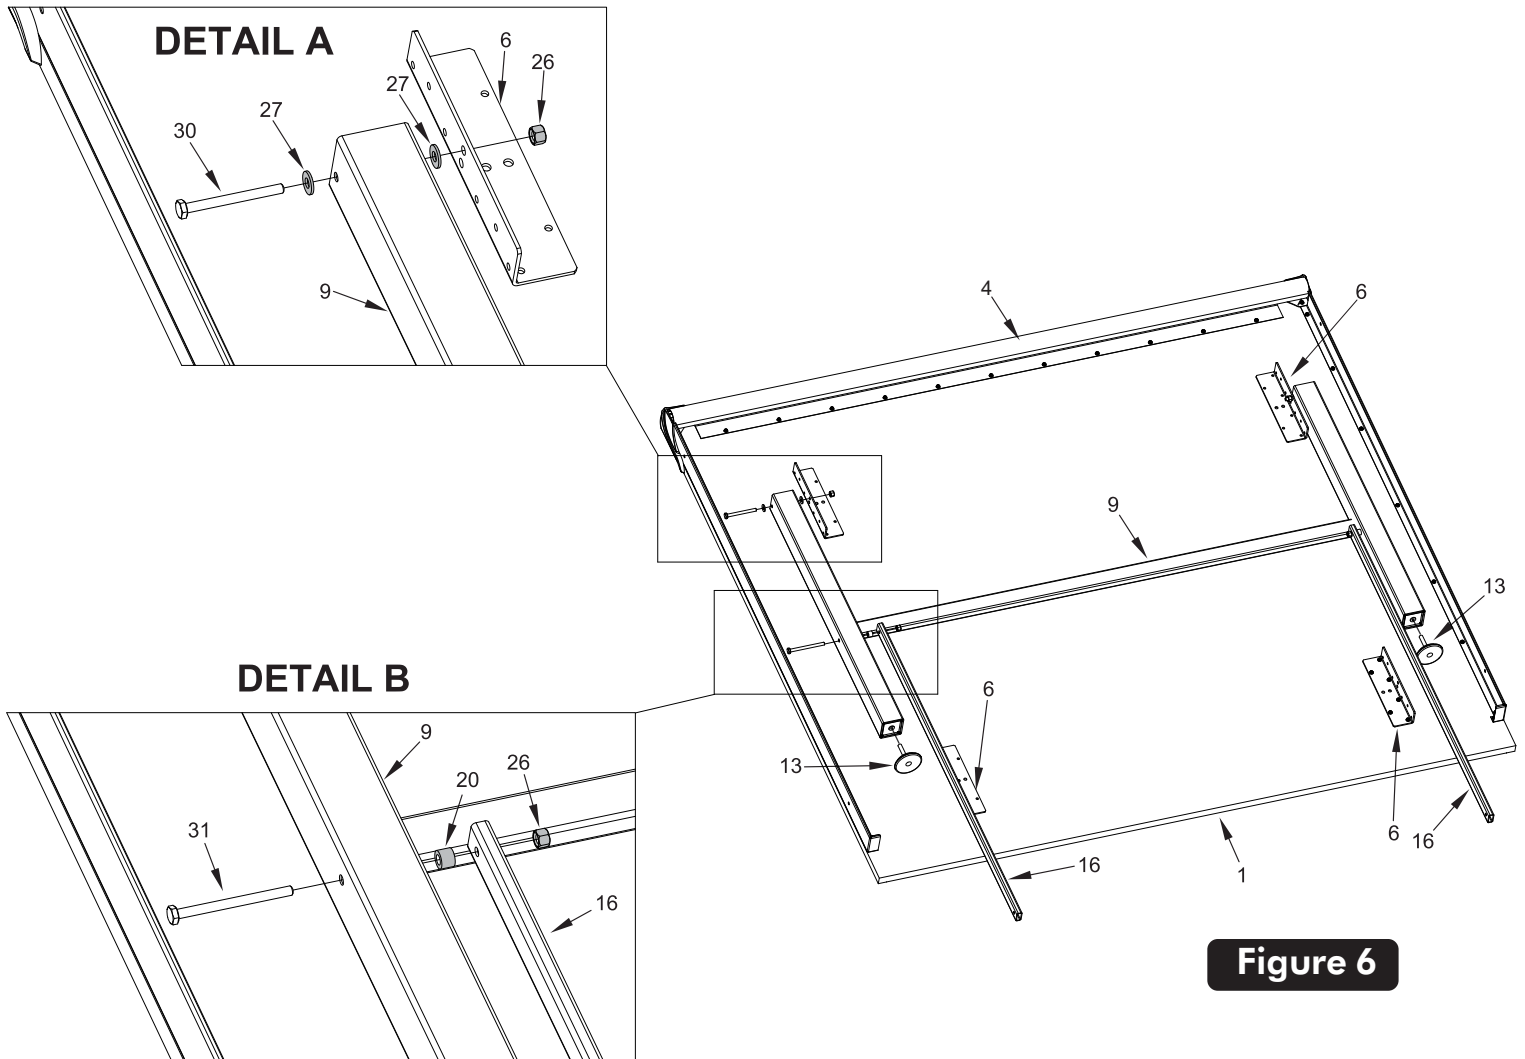

Figure 6
8. When doing this step, you may want to place a towel between table top and wall to keep from scratching wall. With the help of at least one other adult, take either table half #1 and lean it against a wall as shown in Figure 6. Turn top so that it is positioned as shown.
9. Attach Leg Assembly #9 to Brackets #6 on the bottom of table half #1. See Figure 6 and Detail A. Use two bolts #30, four washers #27 and two locknuts #26. **NOTE: Washers #27 go on both sides of leg. NOTE: Cross Brace on Leg Assembly goes against table.**
10. Screw a Leg Leveler #13 into end of each leg on leg assembly #9. See Figure 6.
11. Attach Linkages #16 to **inside** of legs #9 using bolts #31, Spacers #20 and Locknuts #26. **NOTE: Spacer #20 goes between leg and linkage.** See Figure 6 and Detail B. Tighten locknuts snug, but do not overtighten. Joint must be able to move.